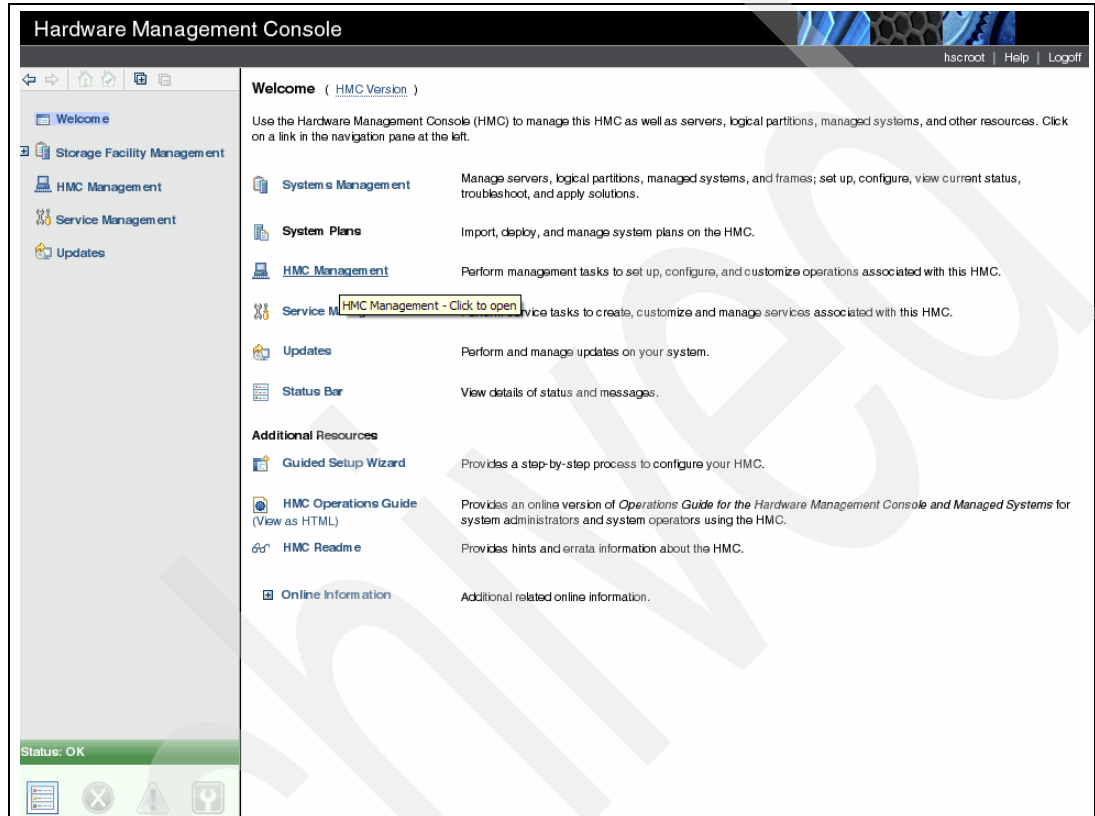

Figure 9-7 WebUI welcome window
2. In the HMC welcome window, select **HMC Management**, as shown in Figure 9-7.